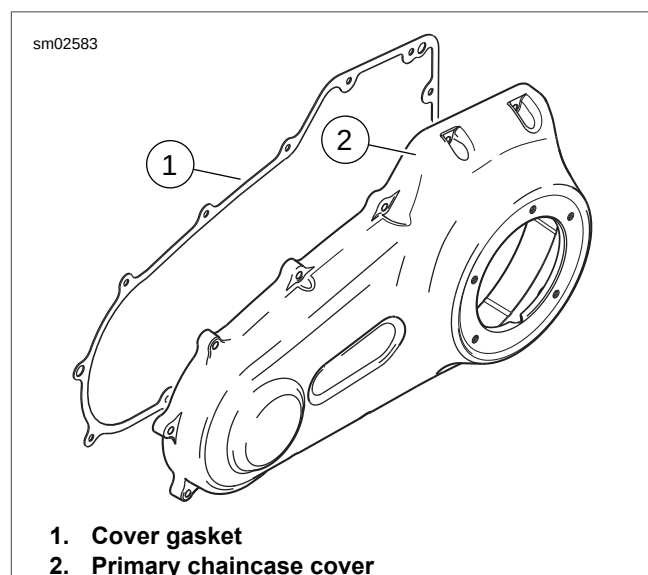

Figure 5-2. Primary Chaincase Cover Gasket
1. See Figure 5-2. Install new cover gasket (1).